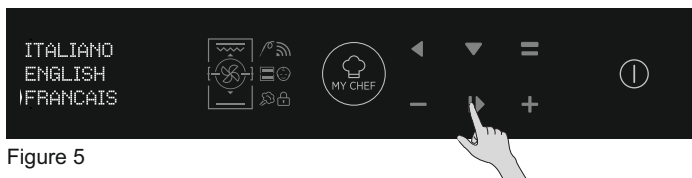

Figure 5
- Press OK to go ahead. (Figure 5)